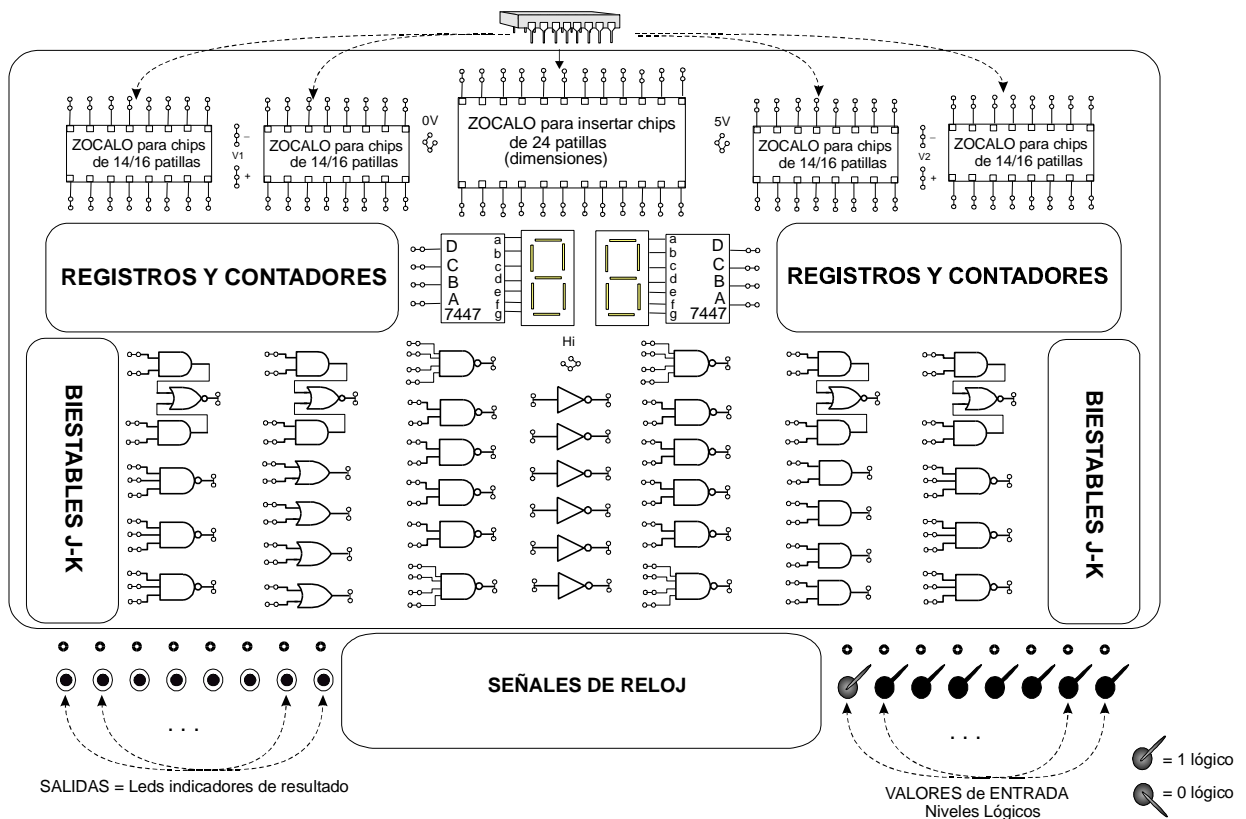

Figure 1: Functional diagram of the trainer.
- b) Draw the logic symbol corresponding to the truth table shown in figure 1.